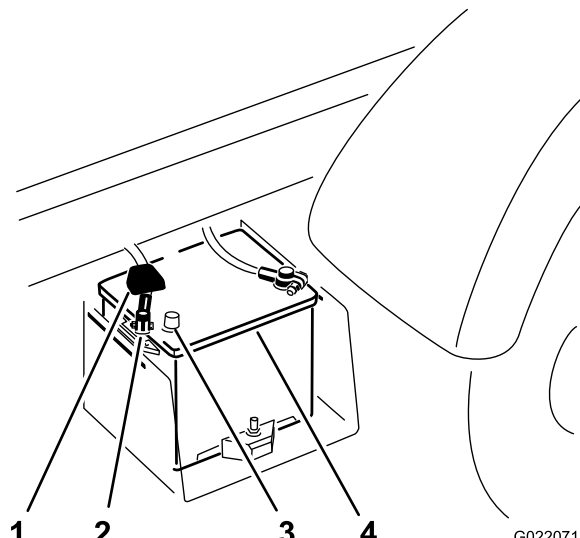

Figure 5
- C. Remove the terminal of the positive battery cable from the battery post (Figure 5).